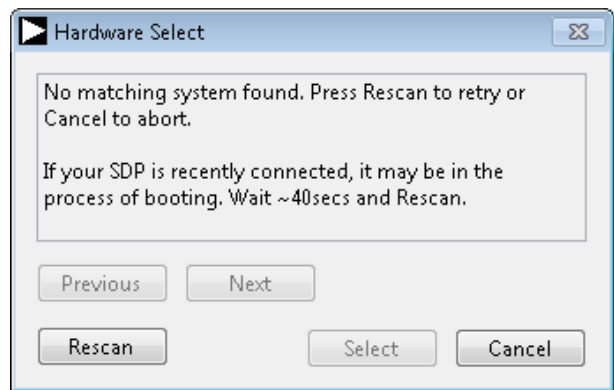

Figure 15. **SDP-H1** Board Not Connected to the USB Port Error
- The software automatically seeks to find the hardware connected; therefore, when no hardware is connected, it displays a connectivity error (see Figure 15) when the software is launched. Connect the evaluation board to the **SDP-H1** and connect the **SDP-H1** to the USB port of the PC, wait a few seconds, click **Rescan**, and then follow the instructions.